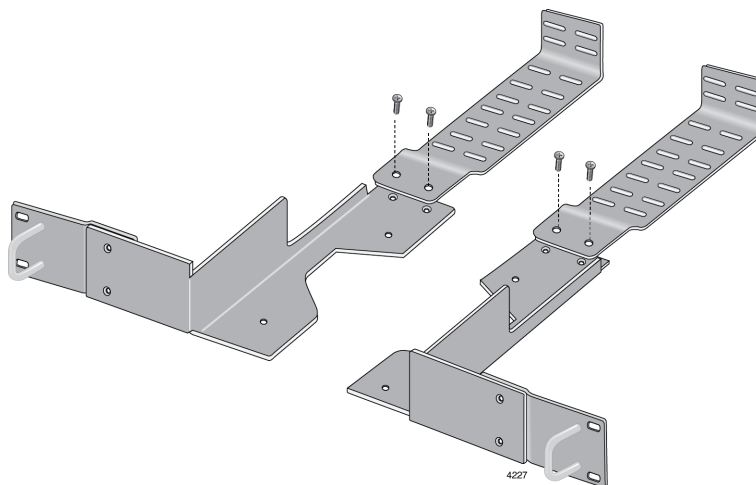

Figure 29. Attaching Cable Tray to Plates
4. Attach the cable bracket to the unit that you assembled in Step 3 with M4x6mm screws using a Phillip-head screw driver as shown in Figure 29.